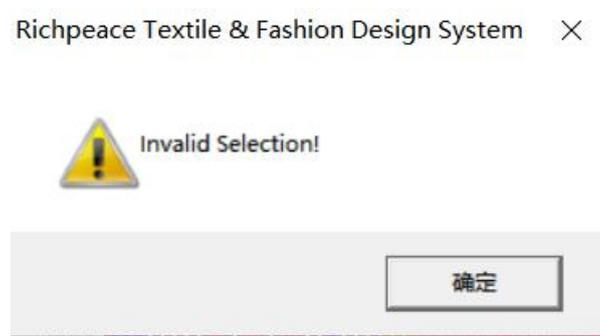

Figure 5-54 Judging the fabric selection box is invalid
1. Judging that the fabric selection box is invalid, exit the operation (Figure 5-54).